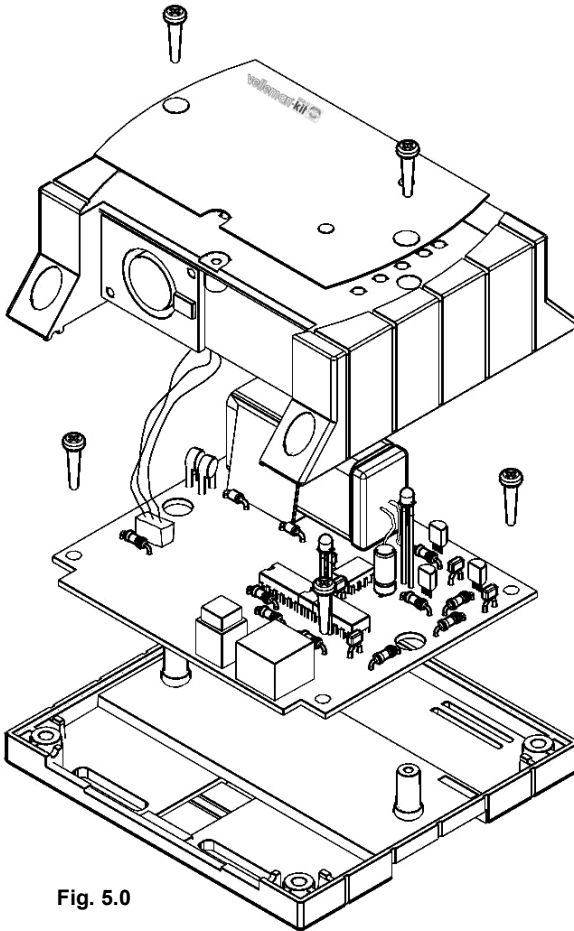

Fig. 5.0
- If stand alone function is used, connect the battery to the connector and insert the battery in the battery compartment as indicated in fig. 5.0.